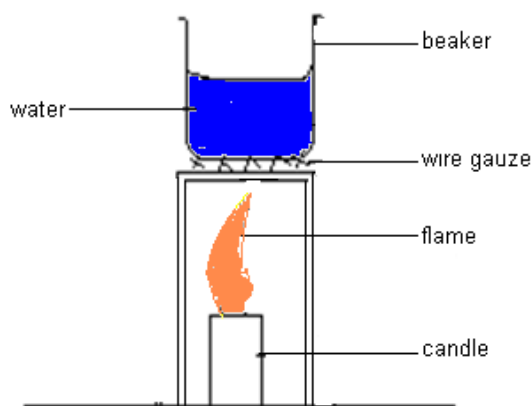

Figure 2.5: Showing water boiling using a Bunsen flame
3. Measure 100 ml of water using the measuring cylinder and transfer this volume into a beaker as shown in Figure 2.5. Close the air holes and measure the duration it takes to boil the water using the flame obtained.